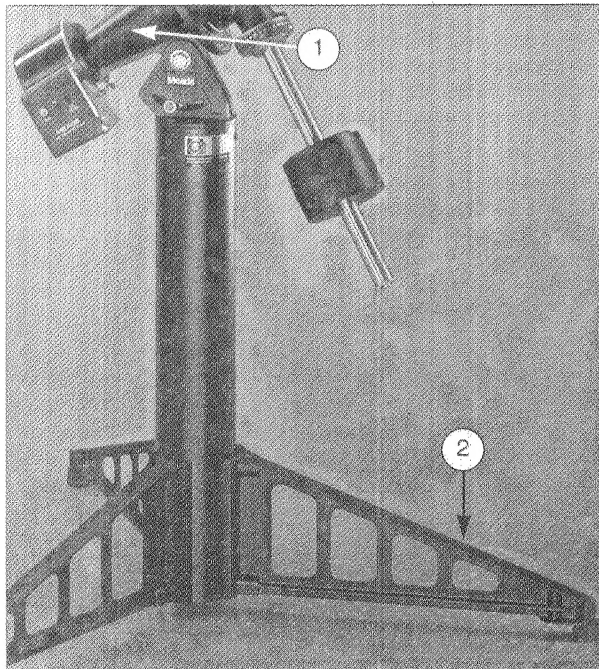

Fig. 6: Aligning the Telescope With the Celestial Pole. (1) Polar Casting, (2) North-Pointing Leg.
- a. Identify the tripod leg designated as the "North-Pointing Leg" (2, Fig. 6) (the leg that is parallel to the Polar casting when viewed from above).